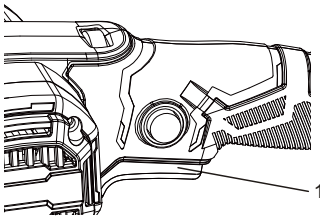

Fig. 6
The ON/OFF trigger switch (1) is a single function switch (Fig. 6). To turn the tool ON, squeeze the trigger. To turn the tool OFF, release the trigger.